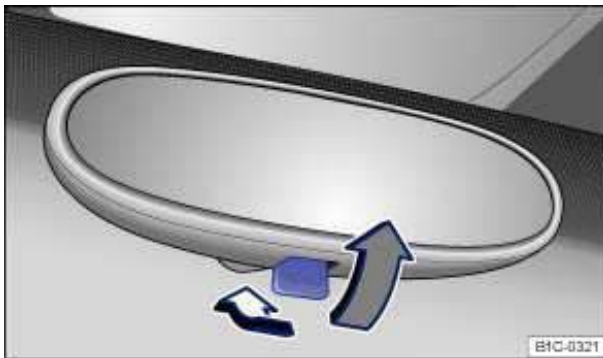

Fig. 74 Manually adjustable inside mirror.
- To adjust to non-glare visibility, move the lever so that it points backward ⇒ fig. 74.